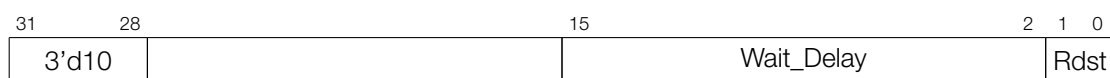

Figure 143: Instruction Type – TSENS
**Operand**    **Description** - see Figure 143